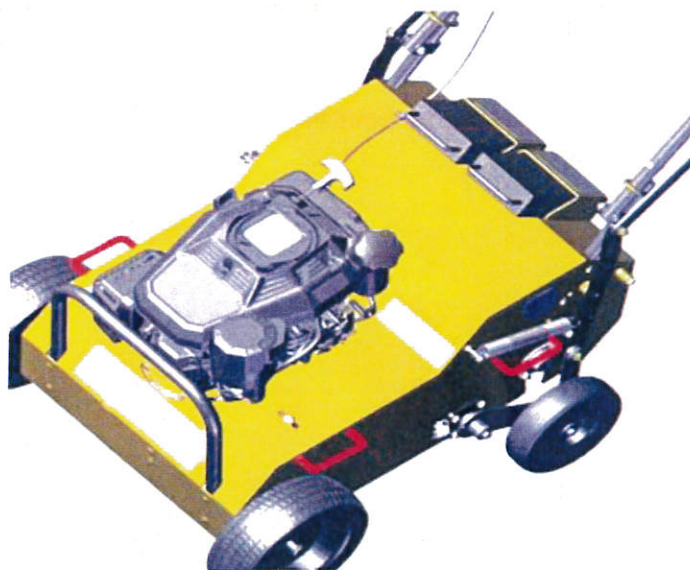

Figure 5
- Utilize the four lifting handles as shown in figure 5.
- Drain the engine oil by removing the oil plug in figure 5.